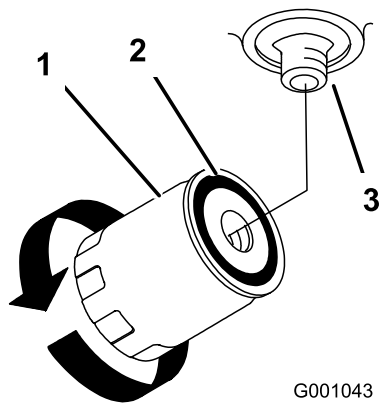

Figure 61
4. Locate filter under engine base and place drain pan under filter (Figure 61).
5. Remove the old filter and wipe the filter adapter gasket surface clean (Figure 61).
9. When the hydraulic filter is full, turn the oil filter clockwise until the rubber gasket contacts the filter adapter, then tighten the filter an additional 1/2 turn (Figure 61).